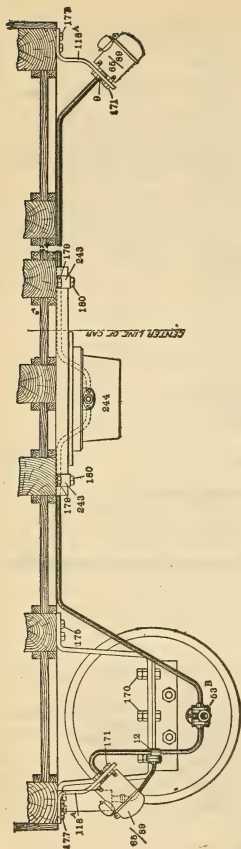

FIG. 48.
These holders are usually hung about one inch from the sheathing, as far as possible away from the sides of the car, the inlet connection end being away from the nearest truck, and the flat side of the angle iron upwards. Figures 48 and 49 show forms of the hanging irons, and another form is shown in Figure 50. The holder valve (53b), Figure 51, is attached to the holder by a flange (3) which is screwed on the holder inlet bushing, and a flange (3a) which is screwed on (53b) in a similar manner, the whole being secured with screws (150). The regular board is shown in